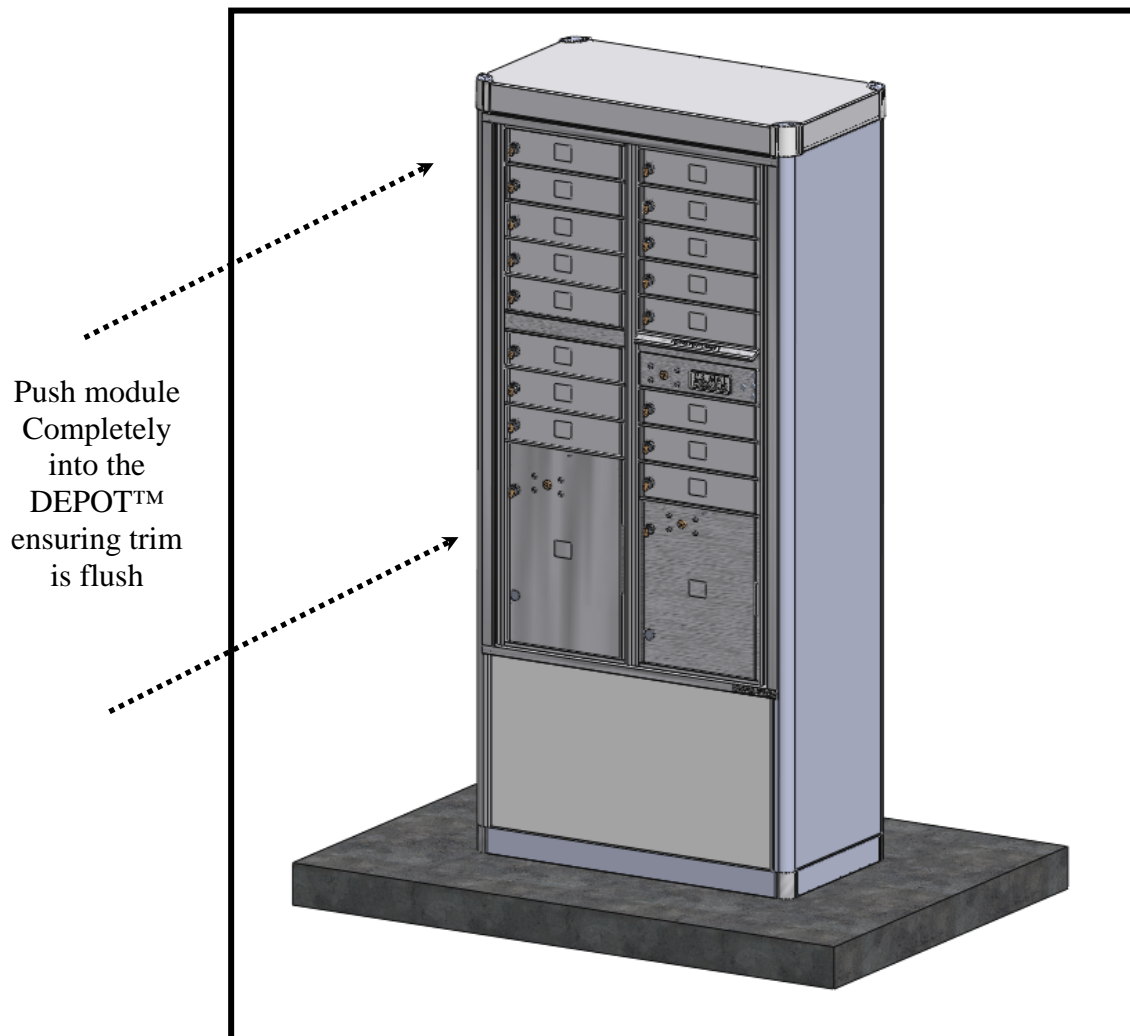

Figure 17 – Installation of versatile™ module
- b) Tilt the top of the module completely into the DEPOT™. Make sure the mailbox trim is flush against the front of the DEPOT™ stand. *See Figure 17.*